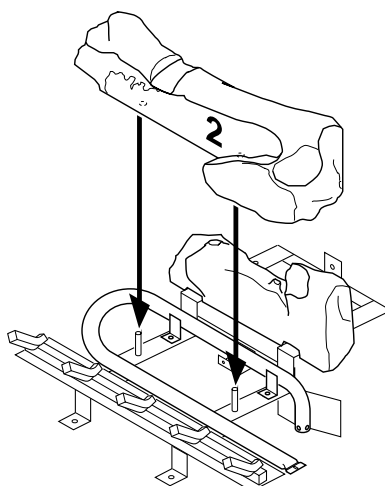

Figure 47 - Installing Log No. 2
2. Rest log #2 (large front log) on the pins on the front part of the grate (see Figure 47).